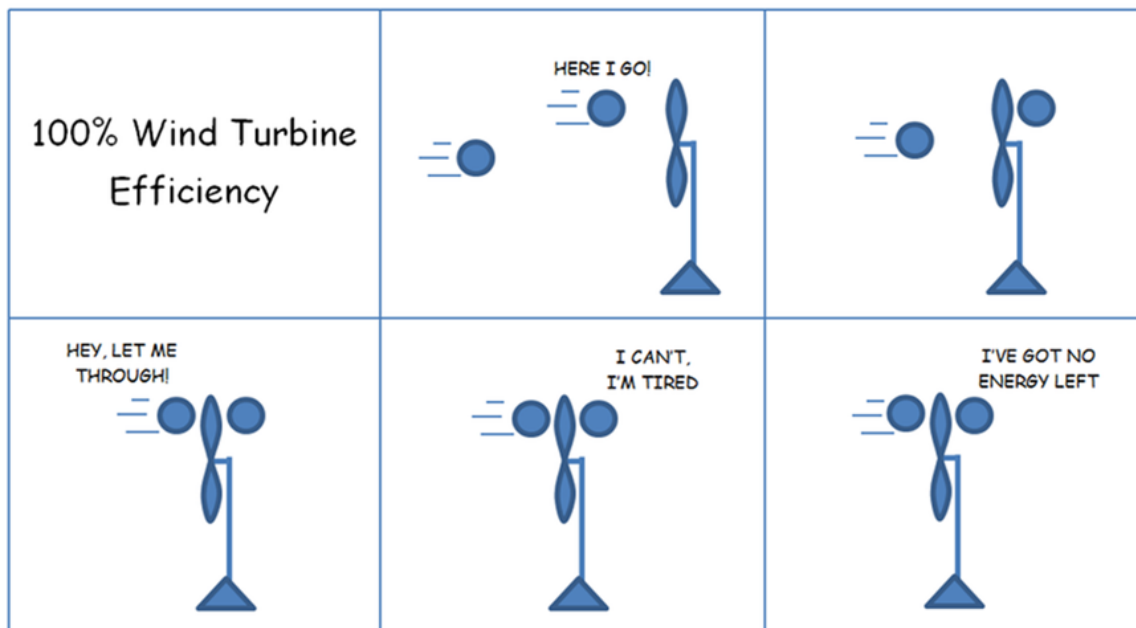

Figure 1: Wind turbines capture the wind's kinetic energy by trying to stop the wind.
- Discuss wind energy (Figure 1)
Explain how wind power spins the blades and how that energy is transferred to work. Figure 1 explains the basics of how wind energy powers wind turbines. Figure 2 includes some technical terms that could be discussed along with an explanation of how they apply.